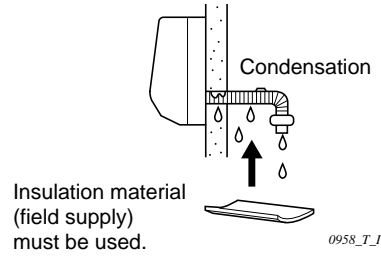

Fig. 3-54
- (c) If the drain hose will run in the room, insulate* the hose so that chilled condensation will not damage furniture or floors. (Fig. 3-54)